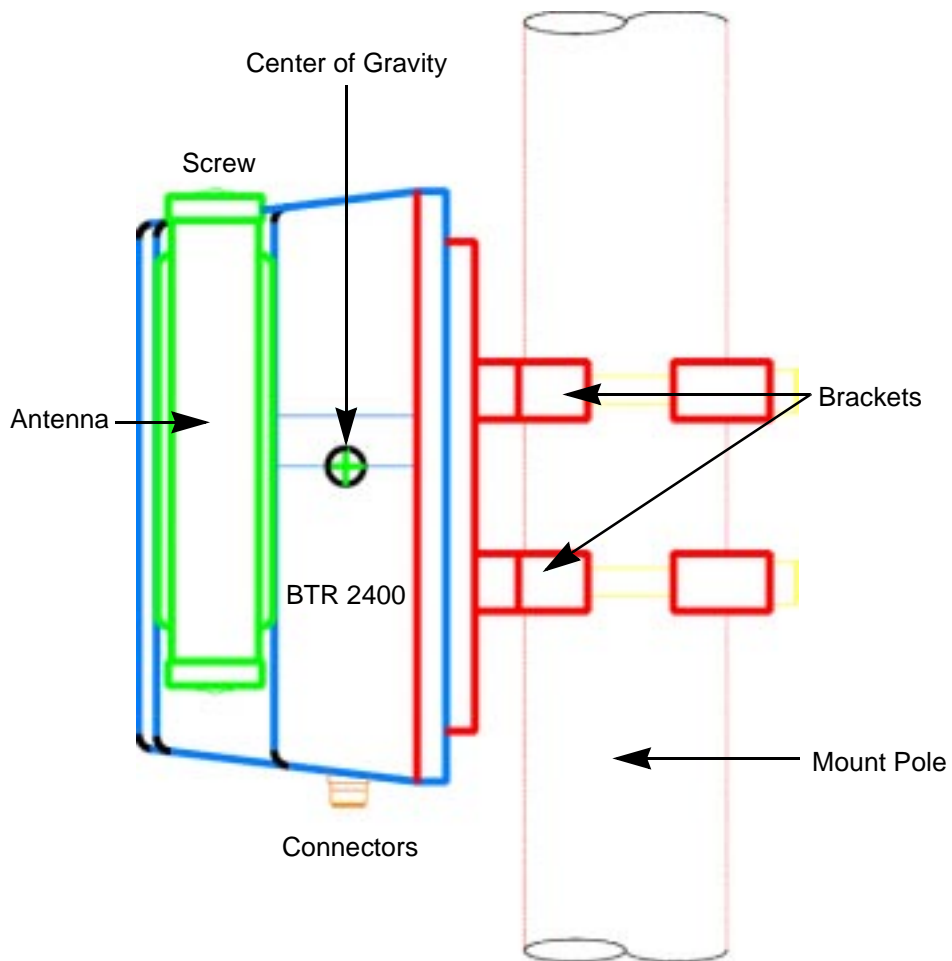

Figure 1-6
12. The BTR 2400 has a vertical range of motion of +10° over and -20° under the horizon, as shown in Figures 1-6 and 1-7.